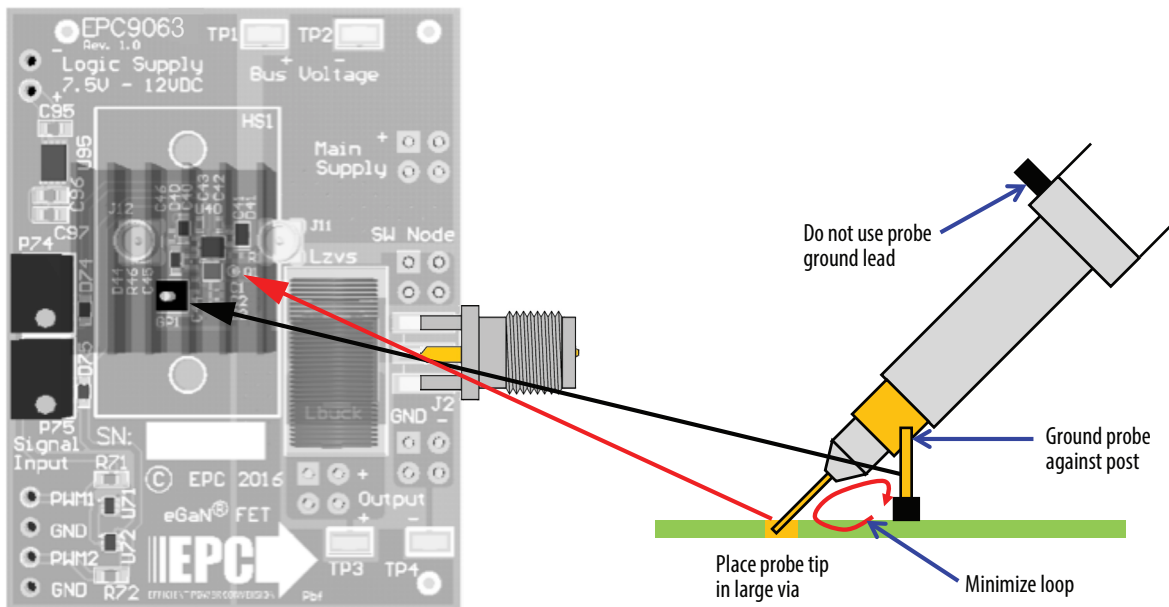

Figure 3: Proper measurement of the switch nodes
**NOTE.** When measuring the high frequency content switch node, care must be taken to avoid long ground leads. Measure the switch node by placing the oscilloscope probe tip through the large via on the switch node (designed for this purpose) and grounding the probe directly across the GND terminal provided. See figure 3 for proper scope probe technique.